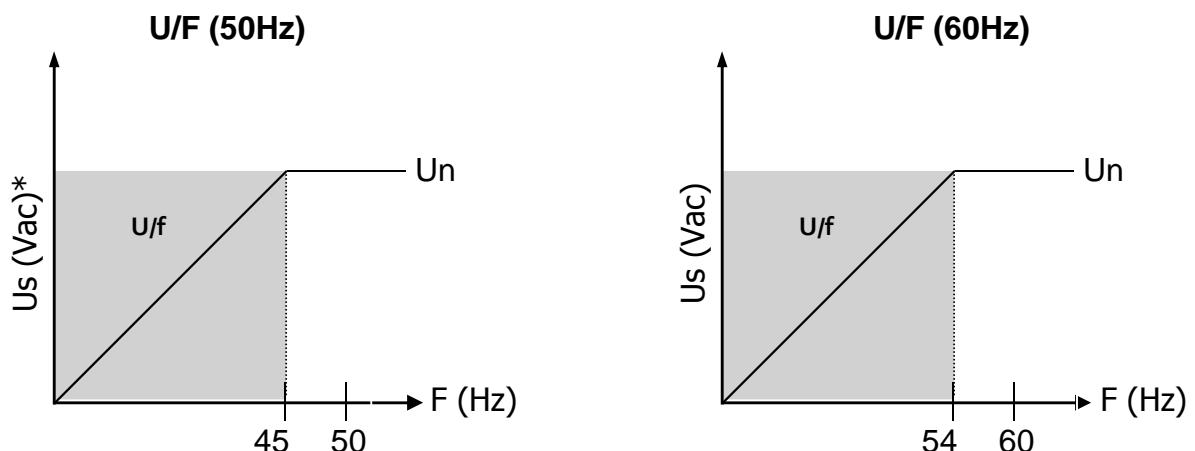

Figure 12.2: Operation of the protection U/F
The trimpot **U/F** determines the actuation point in U/F mode that can be from the rated frequency ( $F_n$ ) to 1/3 of  $F_n$ , which value comes adjusted by the factory in 10% below  $F_n$ . For operation in 60Hz it's adjusted for 54Hz and for operation in 50Hz it's adjusted for 45Hz (see Figure 12.2), this value can be changed according to the needs of each application.
1. Don't let the U/F protection opened. The configuration must be done according Figure 12.2 to avoid problems when shutting down. The frequency limited by U/F is the frequency of the waveform that is at the power supply input of the regulator and not at the sensing input.